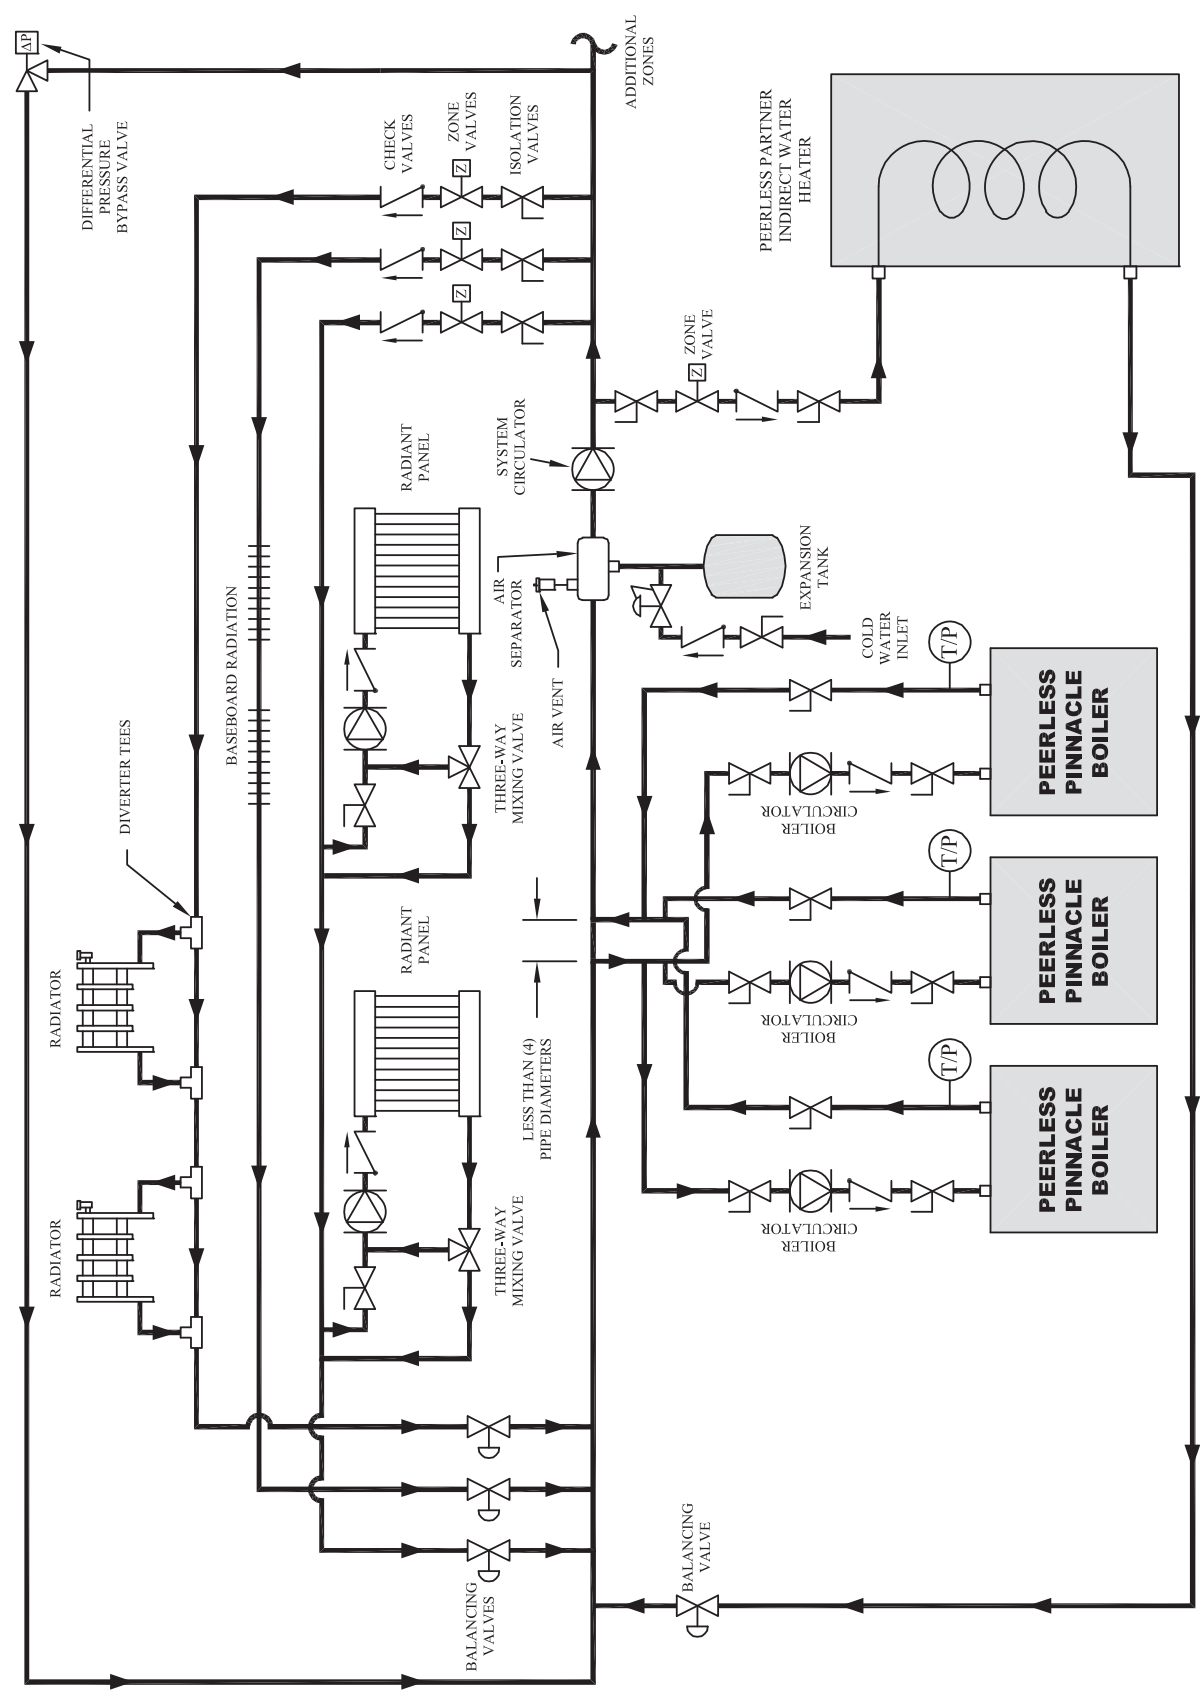

Figure 3.7: Three Boilers, Primary/Secondary with Four Zones (Zone Valves)
5. Figure 3.7 shows zone valves used in place of zone circulators. Notice that this system utilizes reverse return piping which makes it easier to balance the system. If the heating zones are very different in length, the balancing valves on the return side of each loop are required.